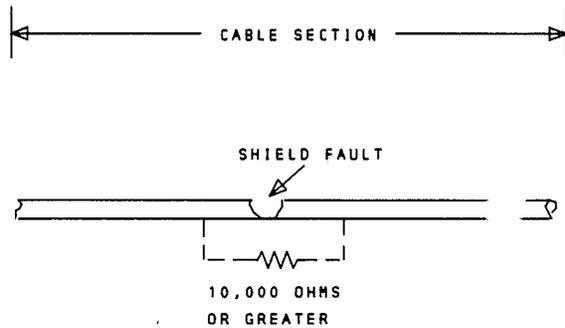

Fig. 4—Shield Fault—No Leakage to Ground
- Update Fig. 1, 2, 3, and 10 and add Fig. 4 and 5
These conditions are illustrated in Fig. 4 and 5.
4.02 In the case of a shield fault as defined in Fig. 4, the low frequency test signal may